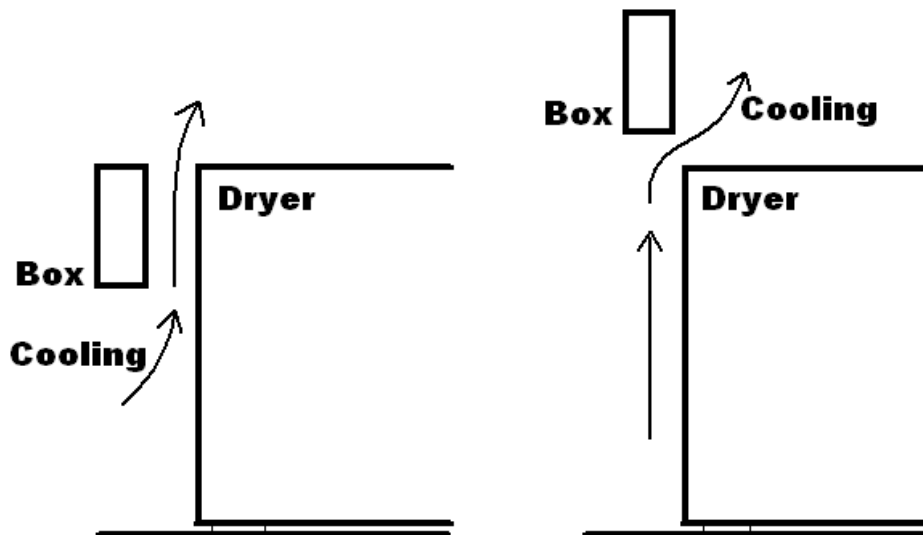

Figure 4: Proposal of mounting at dryer wall
- Preferentially the box should be mounted by spacers (rubber buffers) to the dryer wall. So the updraft on the dryer wall can be used for normal cooling (Figure 4)